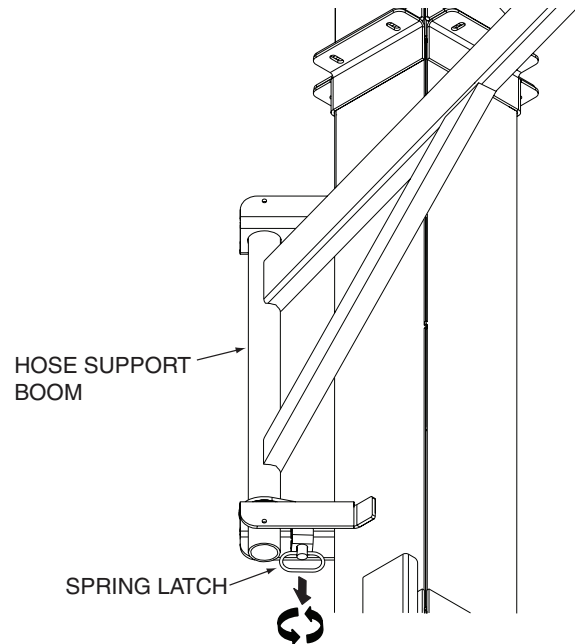
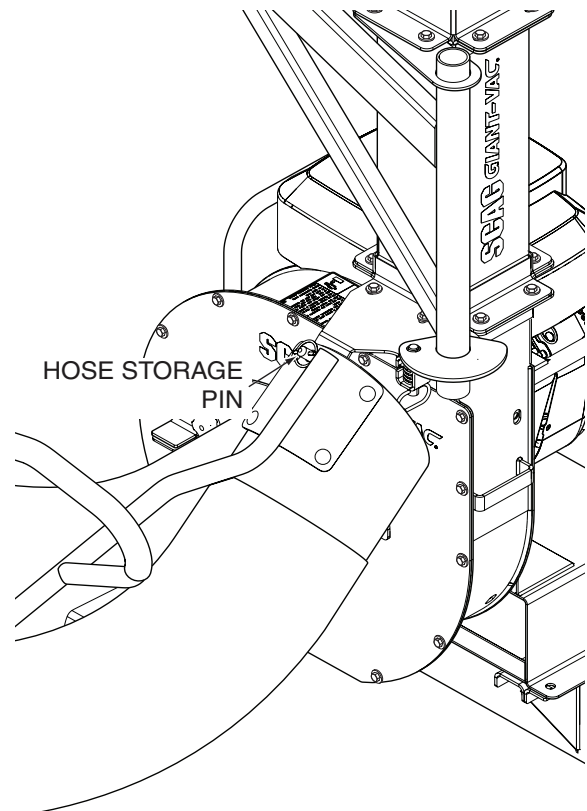

Figure 4-6. Locking the Hose Support Boom
Figure 4-7. Hose Storage Pin
- When machine is not in operation or in storage, lock the hose support boom and secure hose on the storage pin. Pull and turn the spring latch to lock the pin securing the hose support boom in the transport position. See Figure 4-6 & Figure 4-7.